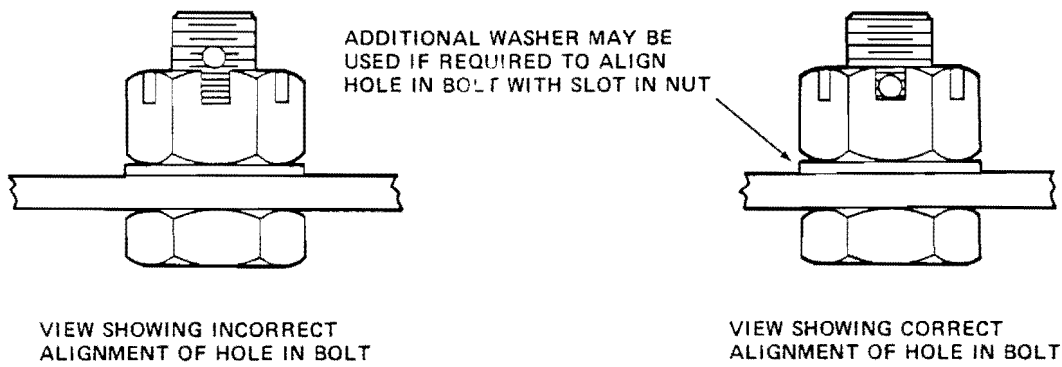

Figure 4.
30. Replace existing hardware that attached 43255 fitting to frame with AN4-7 bolt (2 places), existing AN960-416 washers and MS17825-4 nut (2 places). Torque bolts to a minimum of 60 inch-pounds and, if necessary, continue to tighten until a slot in nut aligns with hole in bolt. Do not exceed 100 inch-pounds torque. Install MS24665-134 cotter pins (refer to Figure 4).